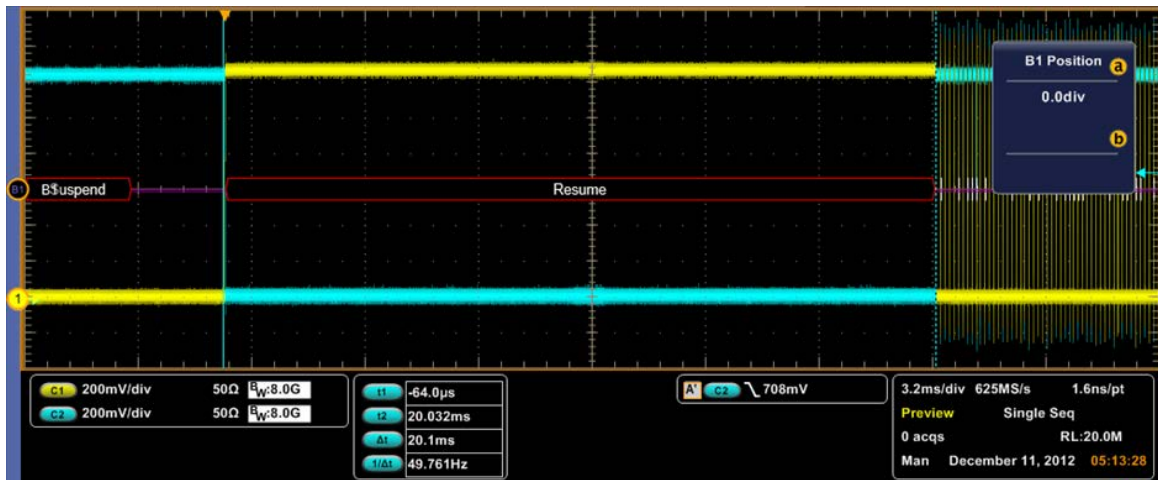

Figure 15 Resume Signal. Strobe Signal (Ch2) in Blue
6. Place the Cursors and measure the time duration for which the strobe signal is low, as shown in Figure 15.